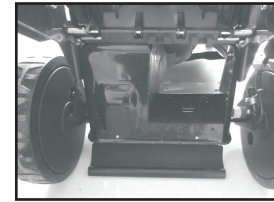

Fig. 10A
1. Lift the rear cover and remove the grass catcher.(Fig.10A)